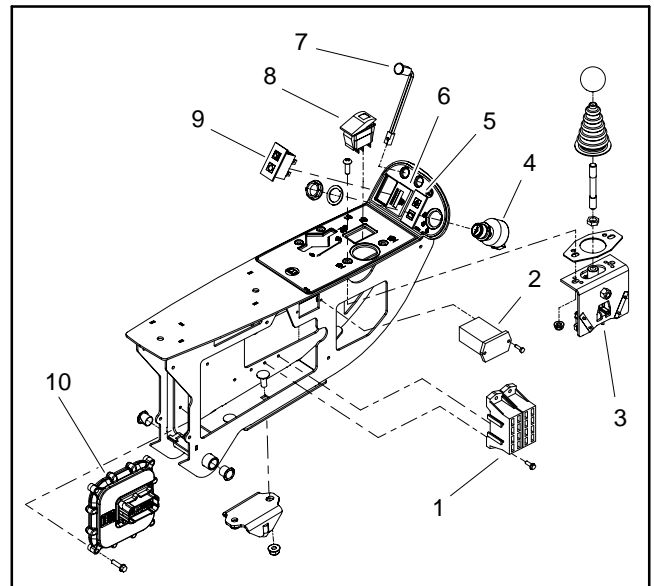

Figure 14
3. At front of control arm, remove screw (item 6) and lock nut (item 5) that secure control arm covers to each other.
4. Remove five (5) washer head screws (item 16) that secure each cover to control arm.
5. Remove control arm covers from machine. As LH control arm cover (item 3) is removed from control arm, unplug wire harness connector from headlight switch.
6. Remove electrical components from control arm as needed using Figure 14 as a guide.
1. Install all removed electrical components to control arm using Figure 14 as a guide.